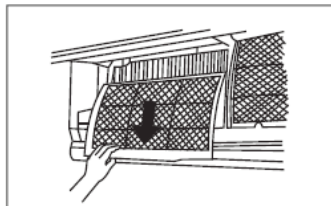
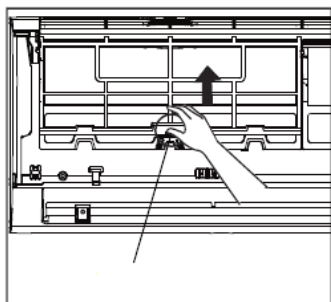

fig. 15 -
fig. 14 -
3. Remove the filters by pushing up the central tabs until they free themselves from the retainer and slide them off downwards ("fig. 14 -" and "fig. 15 -")